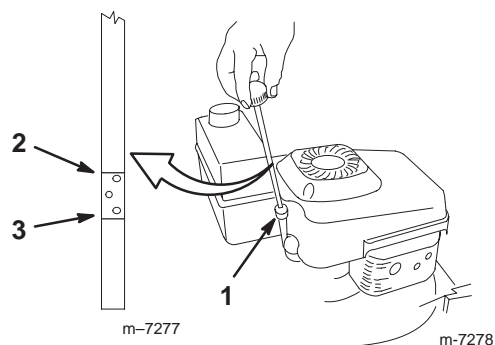

Figure 8
Before each use, ensure that the oil level is between the Add and Full marks on the dipstick (Fig. 8).
2. Clean around the dipstick (Fig. 8).
6. Read the oil level on the dipstick (Fig. 8).